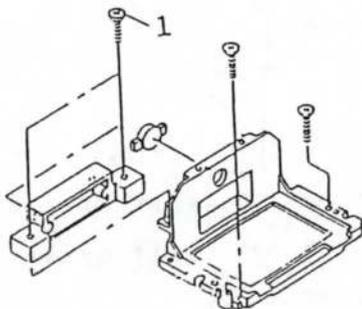

Fig.9
- (2) Take off two SCREWS (No.1) of the SPD frame. (Fig.9)